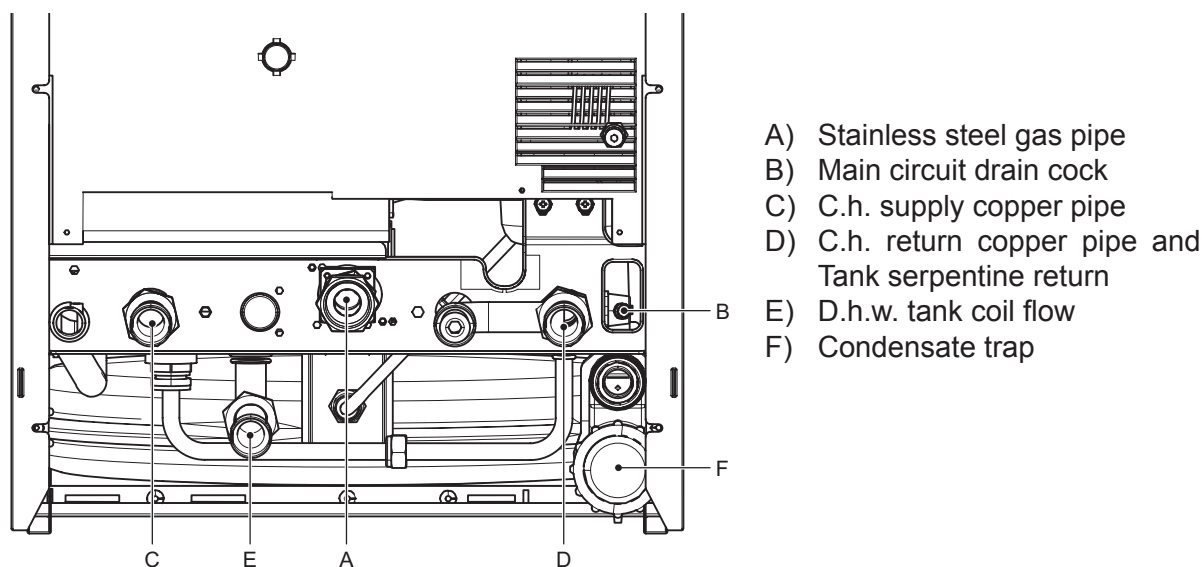

Figure 10.1
The Riva Advance SV is supplied with a 3/4" stainless steel gas pipe (A in figure 10.1), 3 - 3/4" copper pipe (C, D, E, in figure 10.1), located in a plastic bag in the boiler package.
- Remove the protective caps off boiler connections (Figure 10.1).
- Attach the supplied components to the boiler connections (see Figure 10.1). Be sure to use the proper gaskets for the pipe connections.